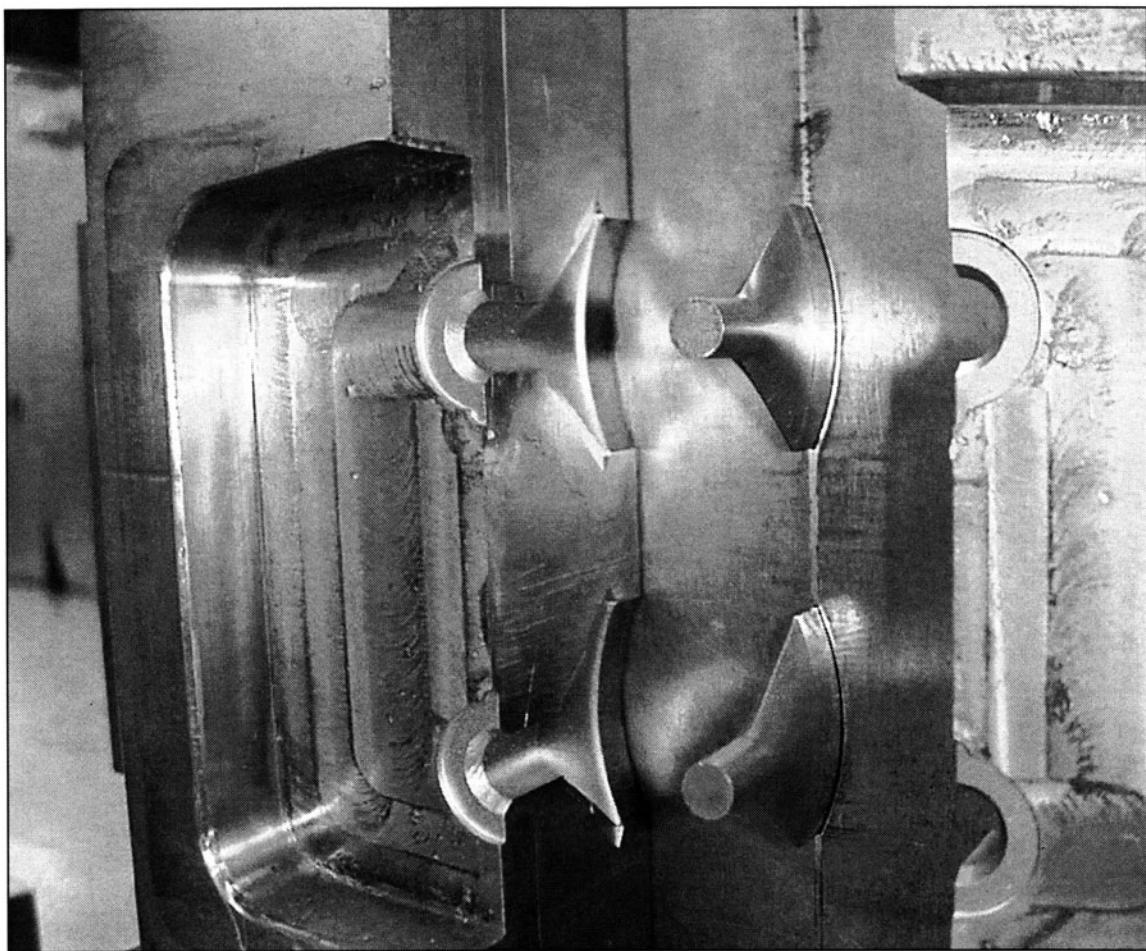

FIGURE 5-18 The core in this mold is an example of a lofted surface created with CAD/CAM equipment.
58. *What are lofted surfaces? (see Fig. 5-18)*